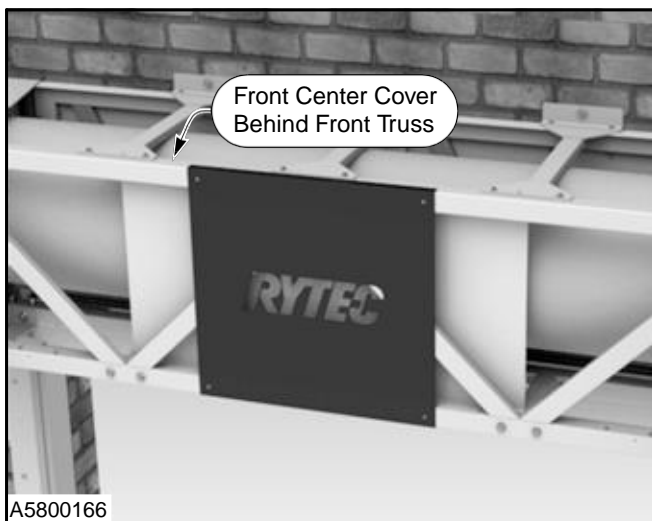
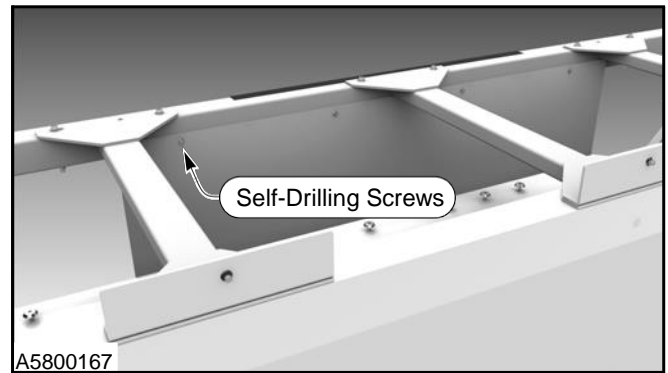

Figure 36
Figure 37
2. Secure front center cover to front truss using $\frac{1}{4}$ -14 x $\frac{3}{4}$ self-drilling screws. (See Figure 36 and Figure 37)